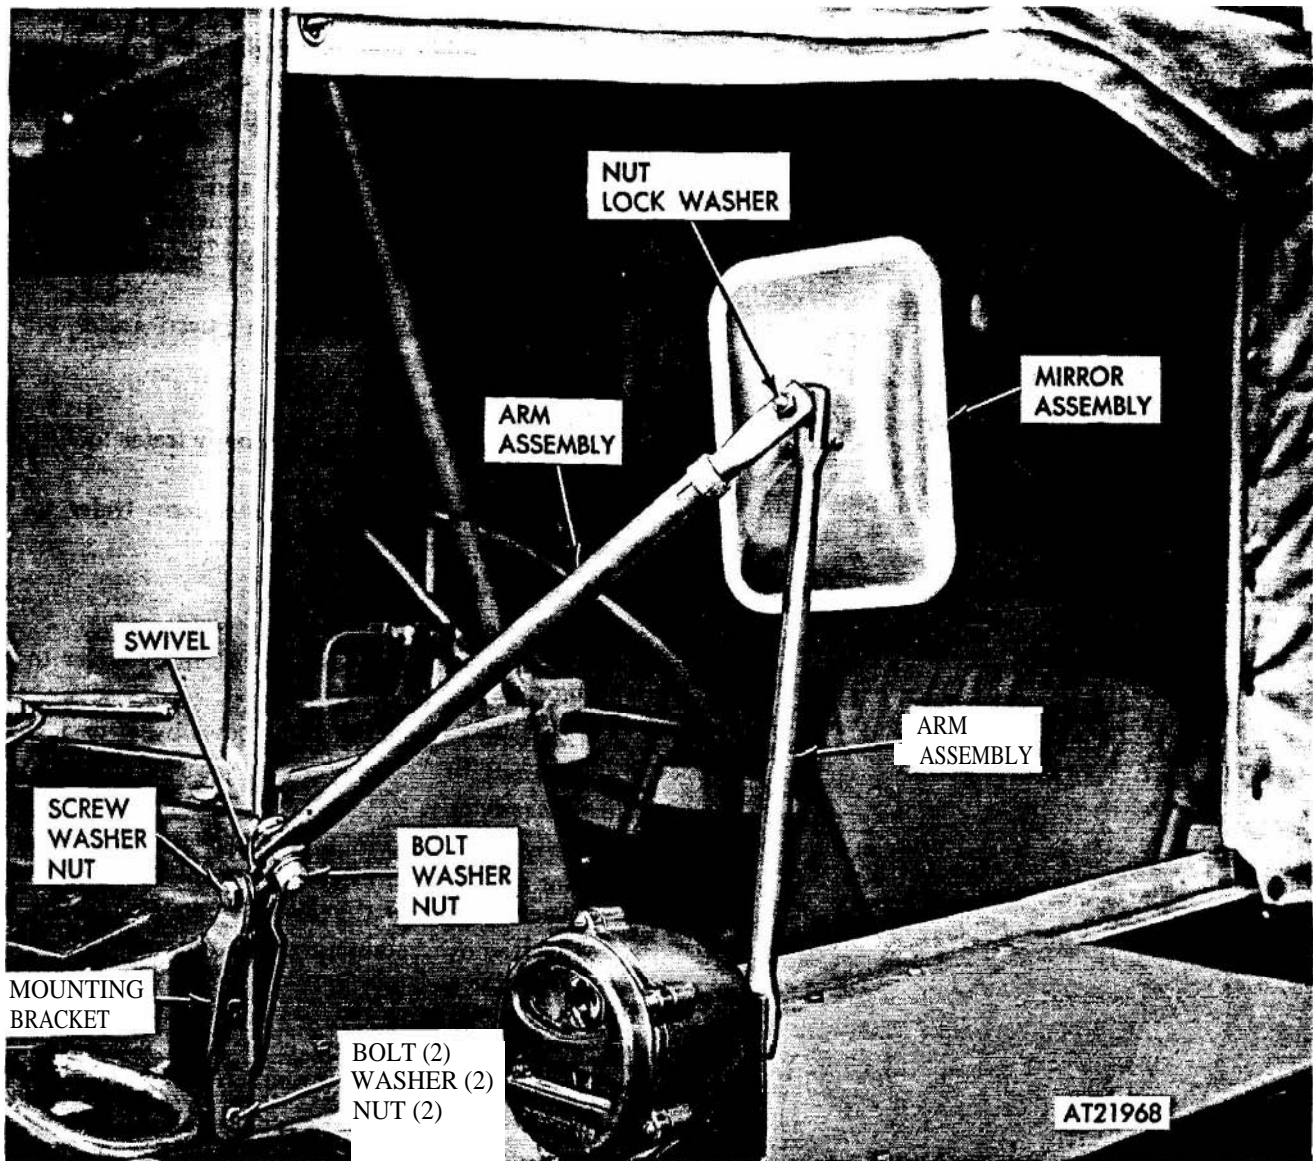

Figure 2-316. Side mirror assembly, removal and installation.
- (1) Remove mirror assembly by removing nut and lock washer securing mirror assembly to support arm and arm assembly (fig 2-316).
- (2) Remove arm assembly by removing bolt, washers, and nut securing arm assembly to swivel.
- (3) Remove swivel by removing screw, lock washer, and nut securing swivel to mounting bracket.
- (4) Remove bracket mounting by removing two bolts, washers, and nuts securing mounting bracket to vehicle.
- (5) Remove support arm by removing bolt and lock washer securing support arm to light bracket. Reinstall bolt and lock washer into bracket.
- (1) Position mounting bracket to vehicle and secure with two bolts, washers, and nuts (fig 2-316).
- (2) Position swivel to mounting bracket and secure with screw, lock washer, and nut.
- (3) Position arm assembly to swivel and secure with bolt, two washers, two fiber washers, and nut.
- (4) Remove outboard bolt and lock washer from light bracket. Position support arm to bracket and secure with bolt and lock washer.
- (5) Position mirror assembly to support arm and arm assembly and secure with lock washer and nut.